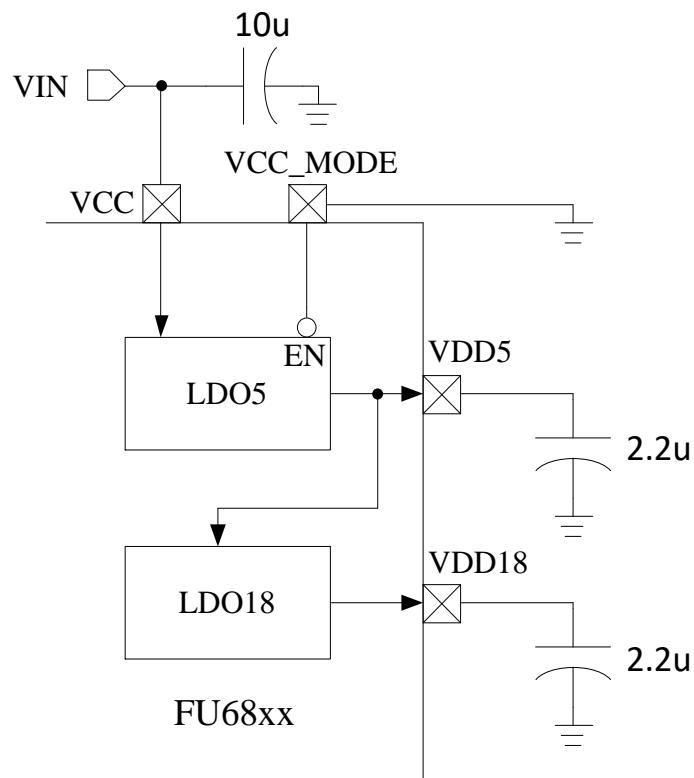

Figure 31-3 High-voltage Single-power Supply Mode
- High-voltage Single-power Supply Mode (VCC_MODE = 0): VCC = 5 ~ 24V. See Figure 31-3 for details.